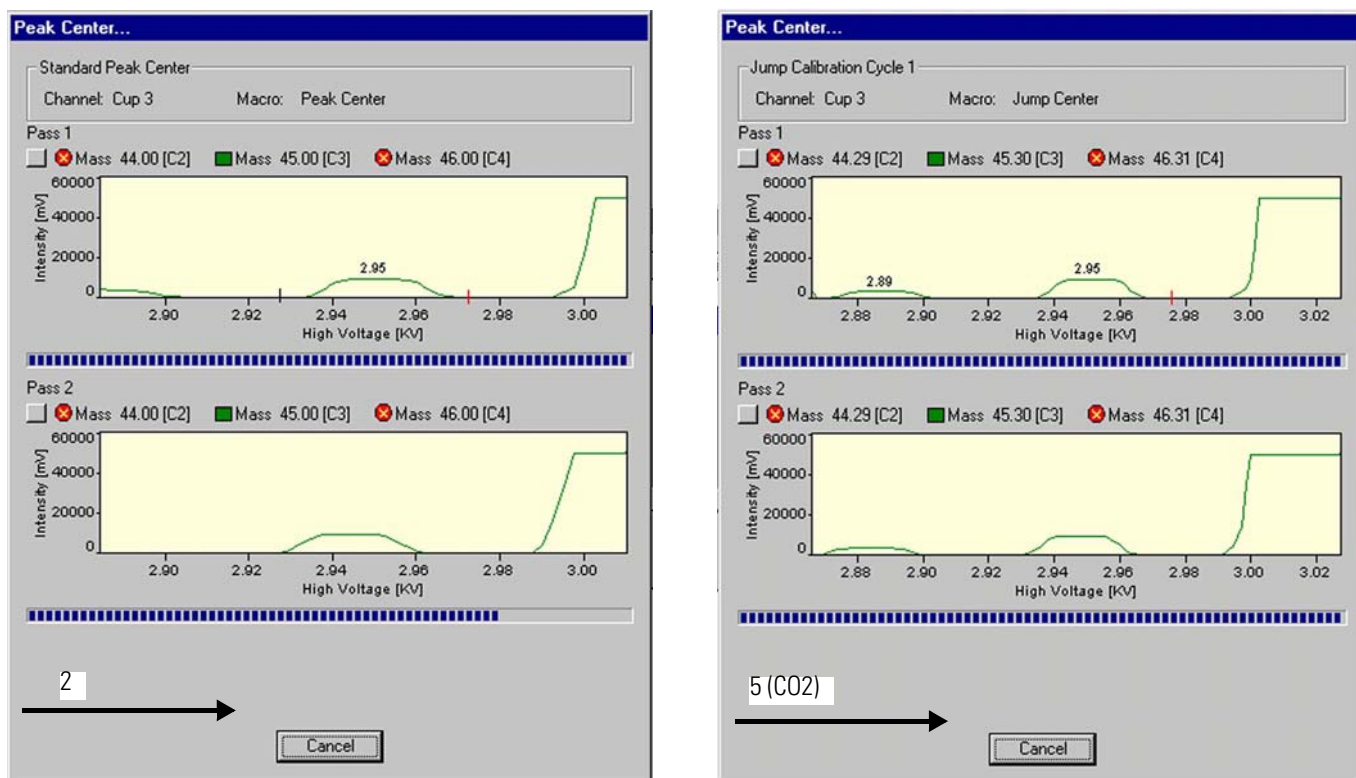

Figure 6-8. Performing peak center for CO₂
5. Perform a peak center for CO₂ to catch the peak. See Figure 6-8.